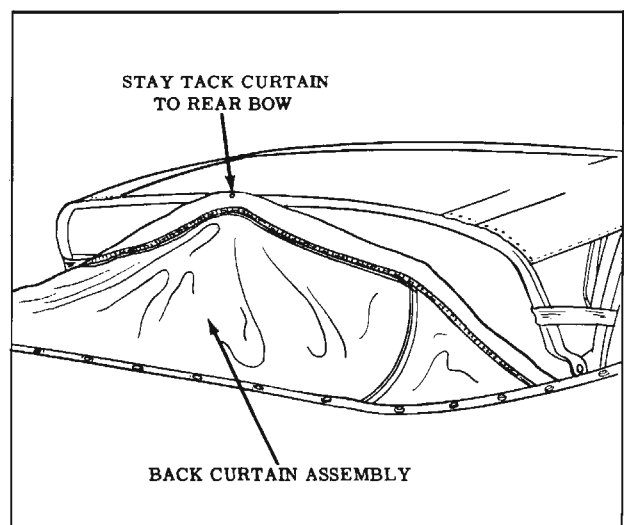

Fig. 16-124 Tacking Curtain at Rear Bow
15. Secure back curtain assembly with one tack to rear bow to prevent damage to plastic sheet. (Fig. 16-124)